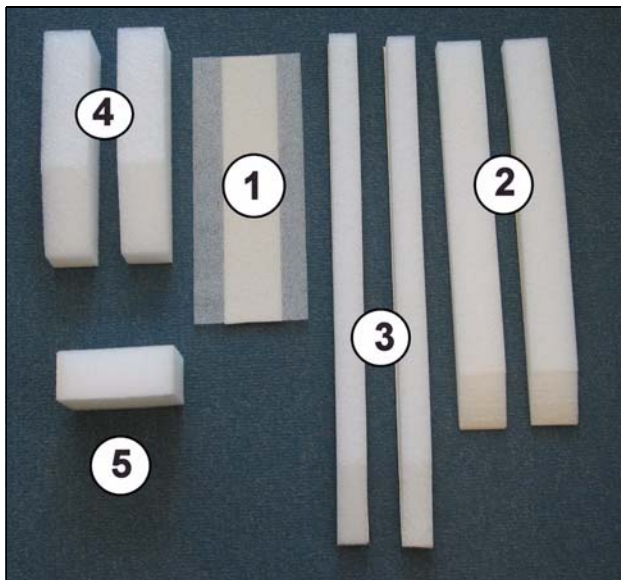
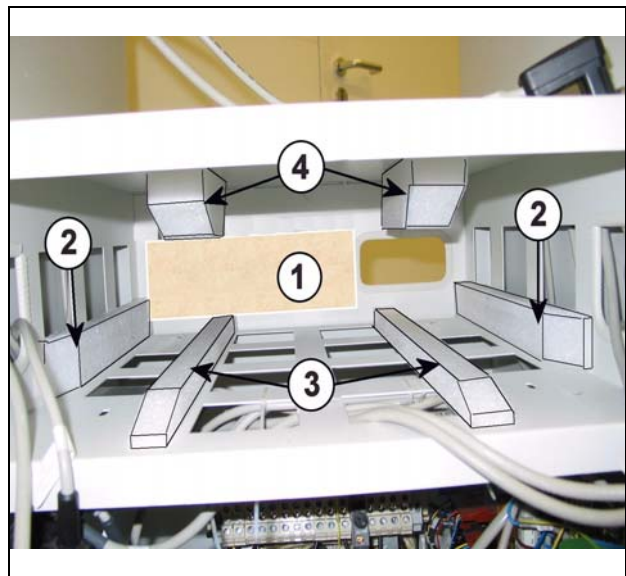

Fig. 1 Foam plastic parts
Fig. 2 Installing the foam plastic parts
- Install the front foam plastic part (1 / Fig. 1) at the rear side of the front plate, shown in 1 / Fig. 2.
- Install the sideward foam plastic parts (2 / Fig. 1) at the position shown in 2 / Fig. 2. Remove the paper from the adhesive tape and press it onto the plate of the monitor cart. The bevel points to the rear of the monitor cart.
- Install the bottom foam plastic parts (3 / Fig. 1) at the position shown in 3 / Fig. 2. Remove the paper from the adhesive tape and press it onto the plate of the monitor cart. The bevel points to the rear of the monitor cart.
- Install the top foam plastic parts (4 / Fig. 1) at the position shown in 4 / Fig. 2. Remove the paper from the adhesive tape and press it onto the plate of the monitor cart. The bevel points to the rear of the monitor cart.
Installing the rear foam plastic part (5 / Fig. 1) at the rear cover
- Use a short piece of tape as shown in Fig. 3 and fix the rear foam plastic part 5 / Fig. 1 on the MEMOSKOP, as shown in Fig. 4 at position 1 / Fig. 4.